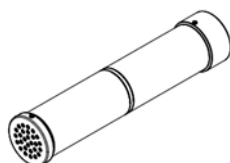

Figure 3 - Test object
2. Test Object: test fixture with a known impedance that is used to verify the factory calibration of the device (Figure 3)